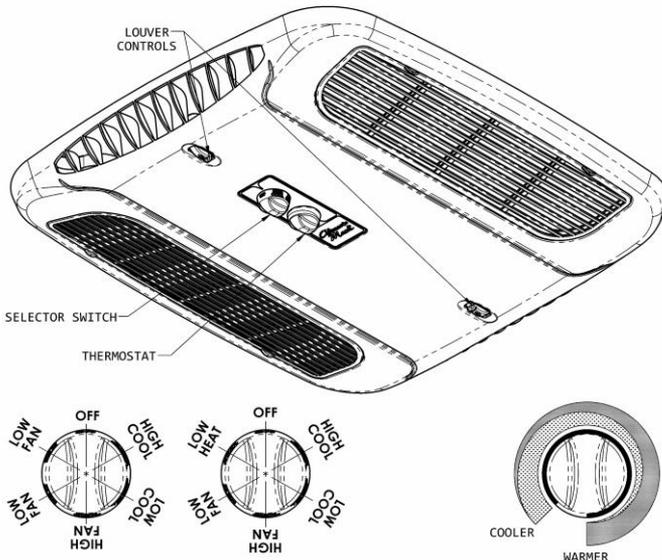

Figure 1
- A. **The Selector Switch** – The selector switch determines which mode of operation the air conditioner will be in. By rotating the selector switch, the operator can obtain any system function desired. System functions vary depending upon options of both the roof top unit and ceiling assembly. Figure 1 shows selector switch location and lists all available functions by model.
- B. **The Thermostat (temperature control)** – In the cooling mode, the thermostat regulates the "ON" and "OFF" temperature setting at which the compressor will operate. For "Heat/Cool" models, the thermostat also controls the "ON" and "OFF" temperature settings of the heater assembly (See Figure 1).
- I. **For Cooling** (Refer to Figure 1, page 8).
### IV. For Heating ("Elect-A-Heat" Ceiling Assembly Model Only) Refer to Figure 1, page 8).
### V. For Air Circulation Only (Refer to Figure 1, page 8).